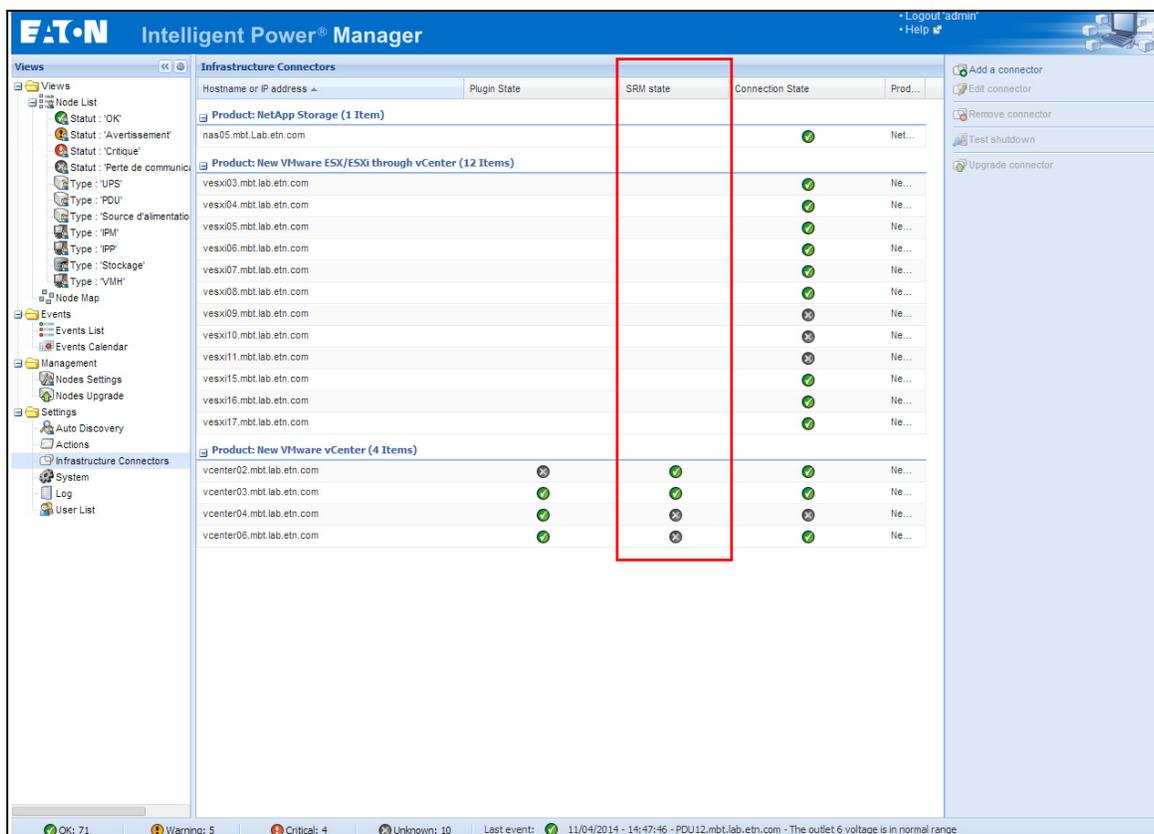

Figure 181. Infrastructure Connectors
- You should now see a new column for SRM state in the Infrastructure Connectors panel (see Figure 181).